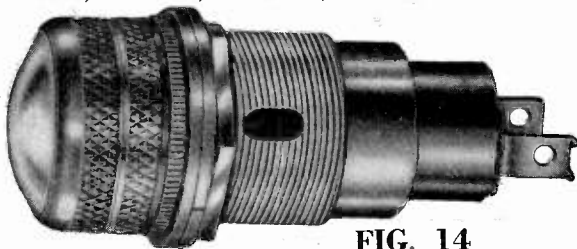

FIG. 14
- 71101-111 Mechanical dimmer (Fig. 14) Soldering terminals (Fig. 9)
- 78101-111 Polaroid dimmer (Fig. 14) Soldering terminals (Fig. 9)